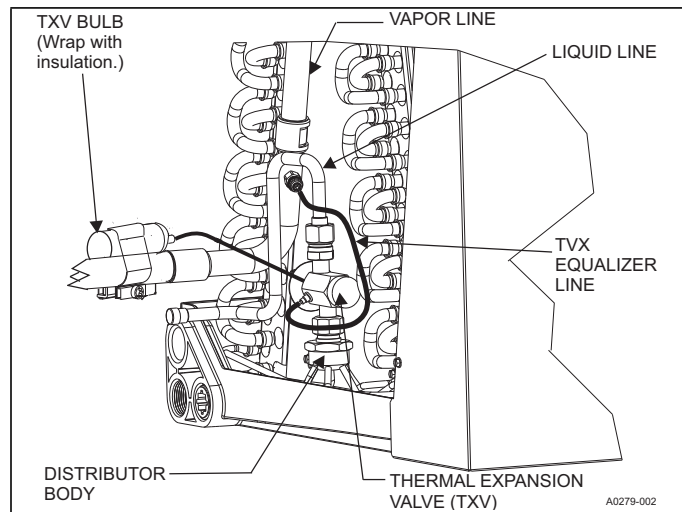

FIGURE 7: TXV Bulb and Equalizer Line Installations
6. Install the TXV equalizer line onto the vapor line by hand tightening the 1/4" SAE coupling nut to the equalizer fitting, and apply an additional 1/3 turn to seal. See Figure 7.
8. Install the TXV bulb to the vapor line near the cabinet, using the bulb clamp(s) furnished with the TXV assembly. Ensure the bulb is making maximum contact. See Figures 7 & 8.